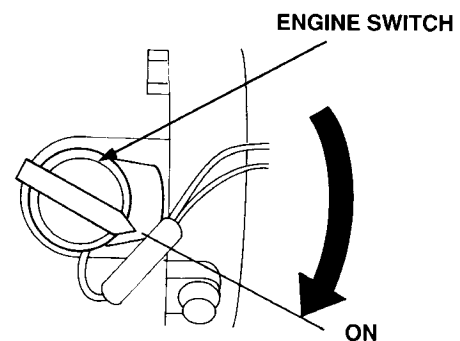

Figure 10. Engine ON/OFF Switch (ON Position)
5. Place the engine ON/OFF switch (See Figure 10) in the "ON" position.